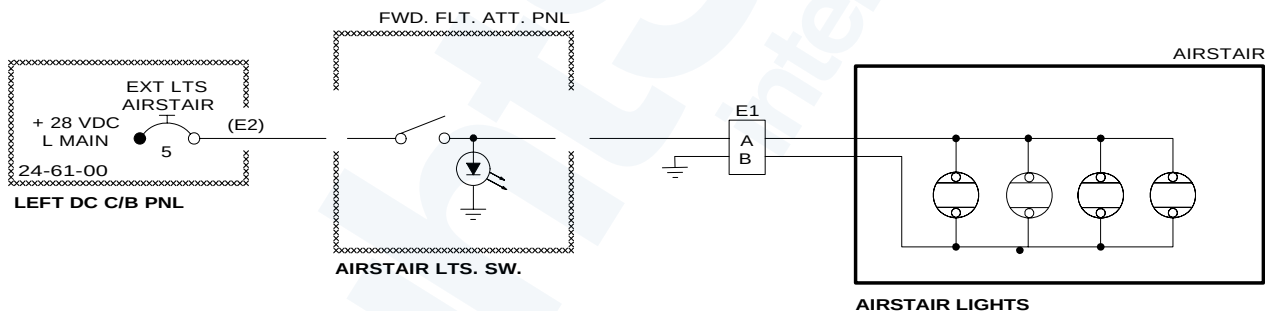

Figure 33-26. Airstair Door Lights Electrical Schematic
- Figure 33-26. Airstair Door Lights Electrical Schematic.